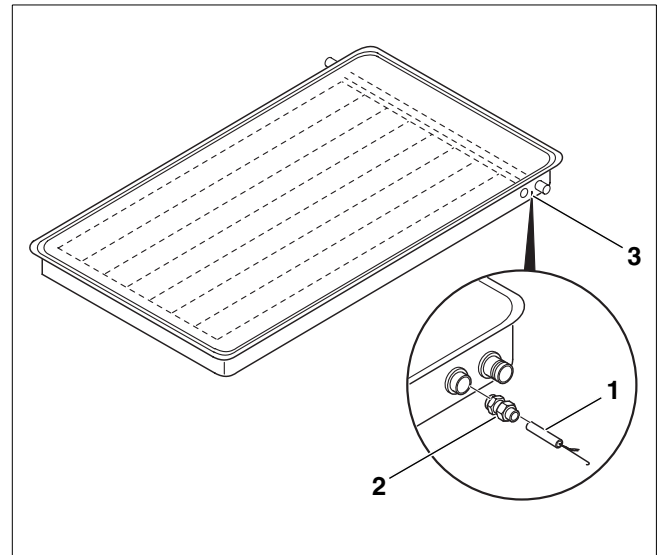
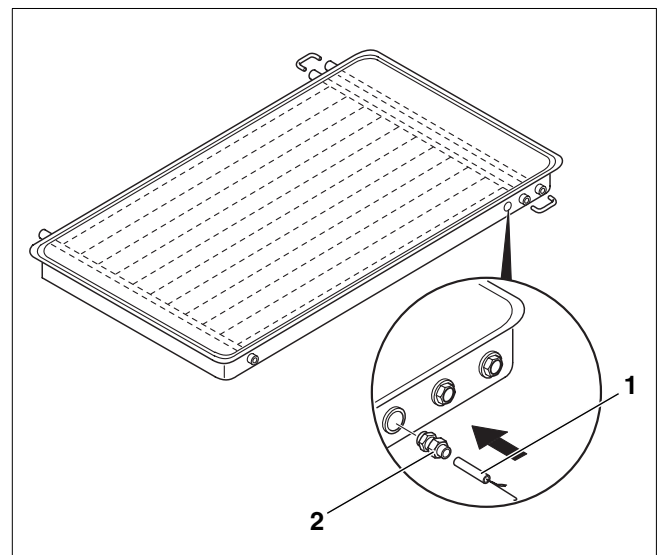

Fig. 3 Collector Logasol SKN
Fig. 4 Collector Logasol SKS
The FSK collector sensor is part of the solar module set. The assembly process for both collectors, i.e. Logasol SKN (Fig. 3) and Logasol SKS (Fig. 4) is identical.
- Insert the collector sensor (Fig. 3 and Fig. 4, **Item. 1**) into the immersion sensor jacket of the end collector. The immersion sensor jacket is located in the top r.h. corner of the collector (Fig. 3, **Item. 3**). To position the sensor push through the protective rubber membrane. Insert the sensor until it bottoms out inside the immersion sensor jacket.
- Tighten the connection to secure the sensor and to achieve strain relief (Fig. 3 and Fig. 4, **Item. 2**). The sensor must sit snugly inside the sensor well.
- Plug the sensor connection plug into the FSK card (yellow) of the solar module FM 244 to connect the sensor (FSK) with the Logamatic 2107 (M) control unit.